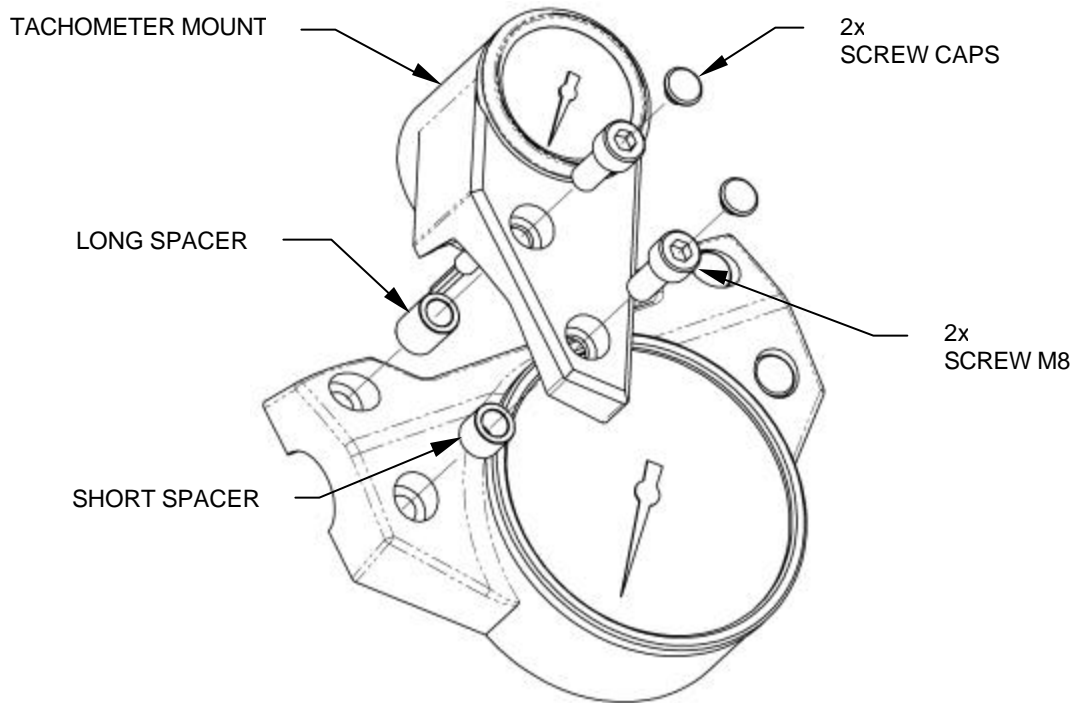

FIGURE 1
2. Remove the two mounting screws and screw caps from the left side of the handlebar clamp. Insert the long spacer into the front hole and the short spacer into the rear hole. (refer to fig 1)
3. Align the two holes in the tachometer mount with the two holes in the handlebar clamp, insert and tighten the provided screws to factory specifications. (refer to fig 1)